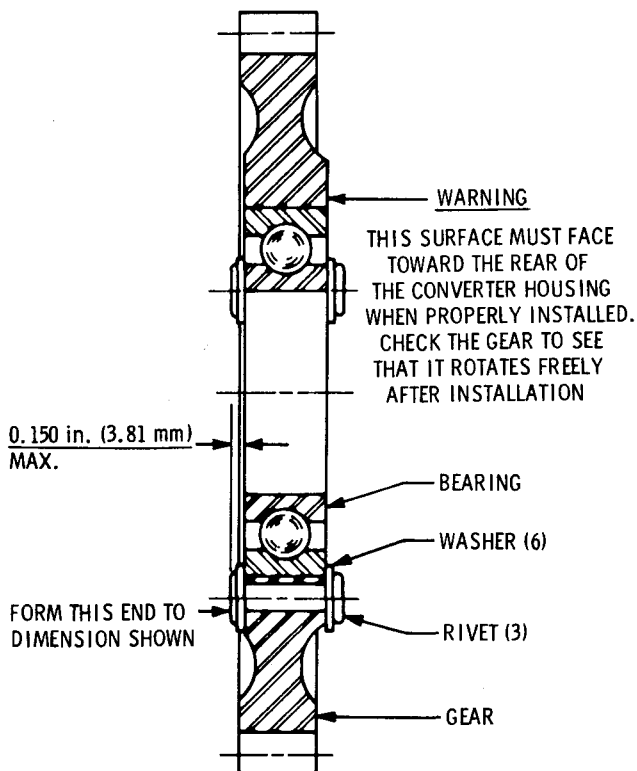

Fig. 6-12. Accessory drive idler gear assembly and installation—cross section
(1) Refer to the note in para a(1), above. If the idler gear bearing 13 (A, foldout 8) was removed, replace it according to the applicable method. When the bearing is retained by blunt staking, use a blunt chisel and restake the gear 14 metal over the bearing at three points 120° apart. Do not restake at the same points previously used. Do not deform the metal enough to cramp the bearing, causing it to bind the inner race. Beginning with S/N 24576, the bearing is retained by three rivets 12 and six flat washers 15. Apply Loctite retaining compound or equivalent to OD of bearing. Allow minimum of two hours cure time at room temperature. Refer to fig. 6-12 for direction and dimension of rivet installation.
Warning: Gear assembly 11 (A, foldout 8) must be installed in the converter housing as shown in fig. 6-12. Failure to face the gear in the proper direction will cause the gear to interfere with the housing.